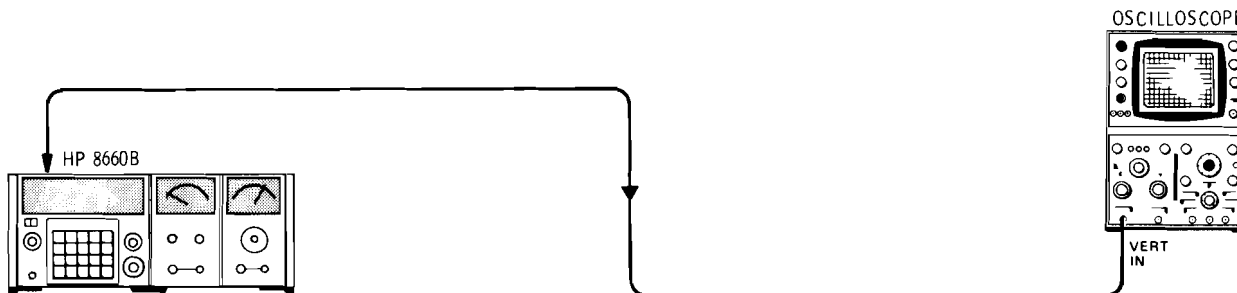

Figure 5-6. Oscilloscope Level Checks
a. Check the outputs listed in Table 5-3 for the levels shown (See Figure 5-6).